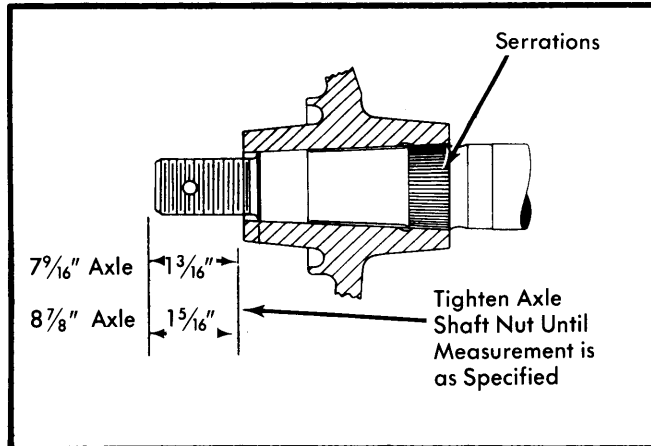

Fig. 2 Hub Installation Measurements
2) Tighten axle shaft nut until distance from hub outer face to axle shaft outer end is $1\frac{3}{16}$ " on the $7\frac{9}{16}$ " axle and $1\frac{5}{16}$ " on the $8\frac{7}{8}$ " axle (refer to Fig. 2). Remove axle shaft nut and one thrust washer, then reinstall nut and tighten. If cotter pin hole is not aligned, tighten nut to align hole (do not loosen). Install cotter pin.